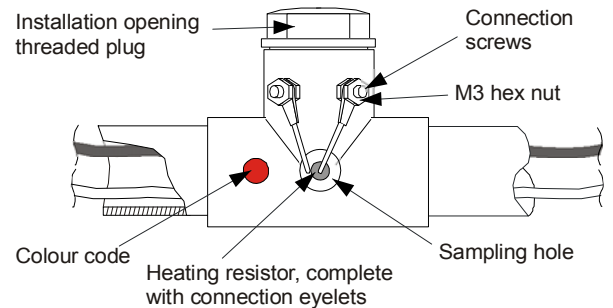

Fig. 8 Mounting the heating resistors
- Put the prefabricated heating resistor on the screw ends projecting outside and fasten with two M3 hexagon nuts, **Fig. 8**.